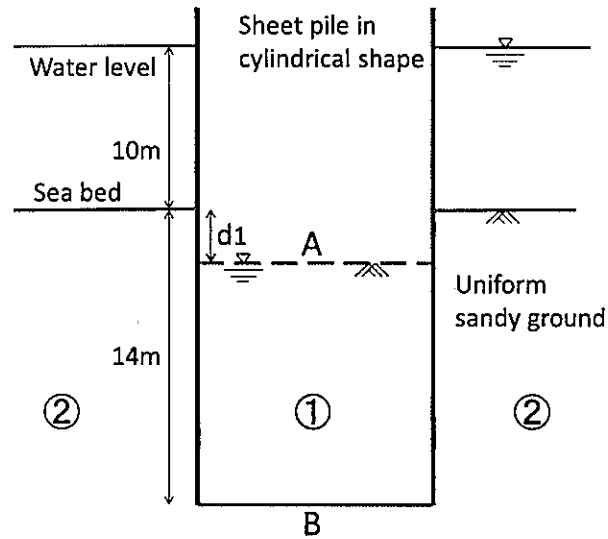

Figure 1
- Suppose the penetration depth of the sheet pile was 14 (m) as shown in Figure 1. At the moment the excavation level reached d_1 (m), area ① became unstable due to upward seepage flow. Calculate hydraulic gradient of area ① and d_1 (m).